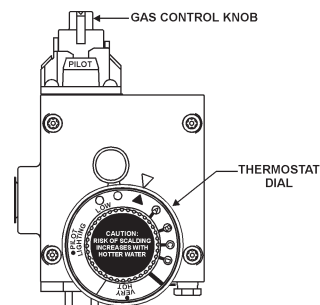

FIGURE 17.
**HOTTER WATER CAN SCALD:** Water heaters are intended to produce hot water. Water heated to a temperature which will satisfy space heating, clothes washing, dish washing, and other sanitizing needs can scald and permanently injure you upon contact. Some people are more likely to be permanently injured by hot water than others. These include the elderly, children, the infirm, or physically/mentally handicapped. If anyone using hot water in your home fits into one of these groups or if there is a local code or state law requiring a certain temperature water at the hot water tap, then you must take special precautions. In addition to using the lowest possible temperature setting that satisfies your hot water needs, a means such as a mixing valve should be used at the hot water taps used by these people or at the water heater. Mixing valves are available at plumbing supply or hardware stores, see Figure 2. Follow manufacturer's instructions for installation of the valves. Before changing the factory setting on the thermostat, read the "Temperature Regulation" section in this manual, see Figures 17 and 18.